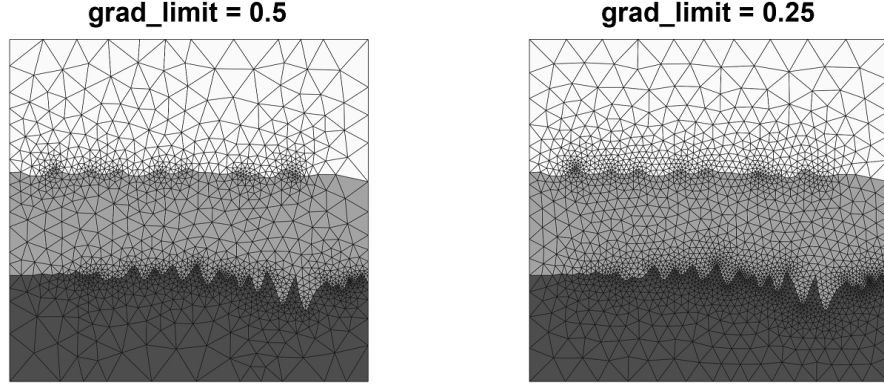

Figure 8: Effect of *Gradient-limit*
- *Gradient-limit*: A limit on the gradient of mesh-size function (Figure 8).⁵ Type: Float. Range: > 0 . Typical value: 0.2 - 0.5.